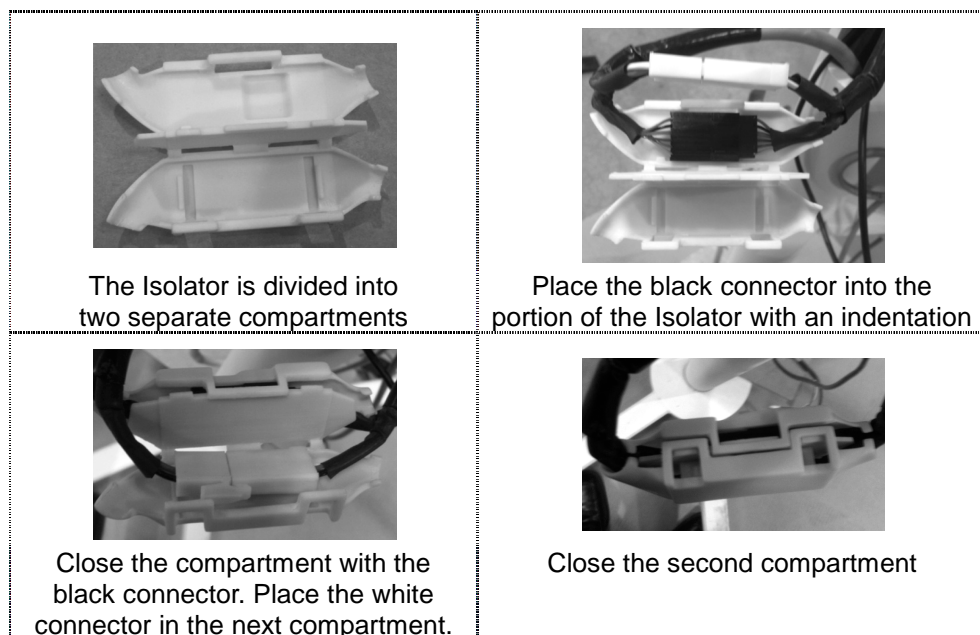

Figure 2: Installing the Isolator in the Horizontal Arm
2. Install the Isolator following the steps shown on Figure 2. The purpose of the Isolator is to keep the connectors from pulling apart over time and provide additional insulation between the high voltage cables and the USB cable.